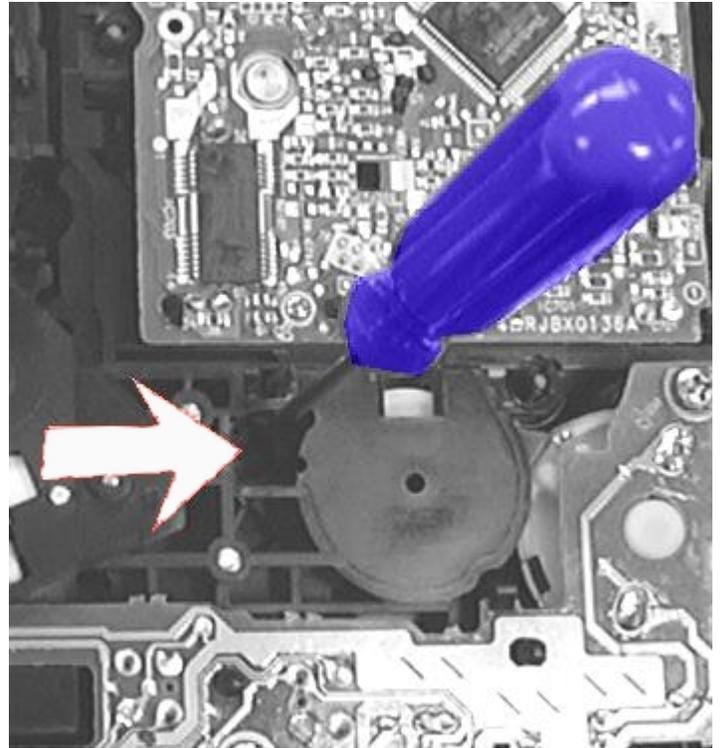

Figure 3
- 3) Insert the gear tool into the bottom of the mechanism and rotate the gear clockwise until the tray base (331) is fully extended (Figure 3). NOTE: Do NOT rotate the gear while the mechanism is upside down or sideways. This will cause binding of the mechanism.